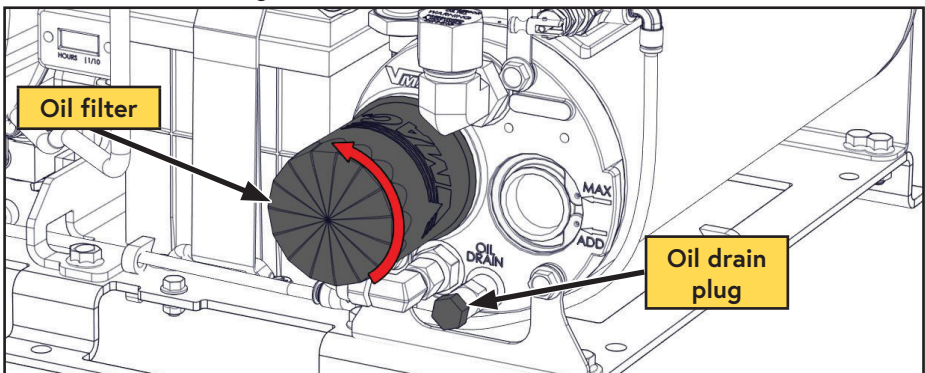

Figure 36 — Compressor oil filter
- Remove the oil drain plug and drain the oil into a container with a capacity of at least 4 L (1 USG) (Figure 36).
- Remove the oil filter (Figure 36 on page 56).